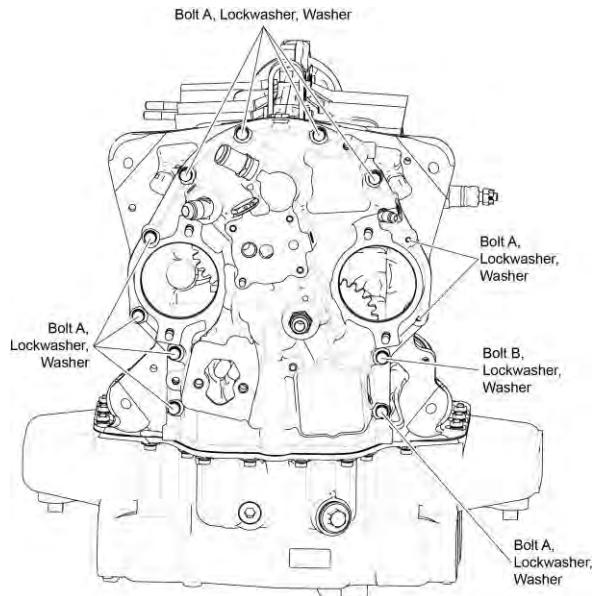

Figure 1
- A. Remove all of the Bolts A and B, lock washers, and washers from the external side of the accessory housing shown in Figure 1. Discard the lock washers.
- B. While one person supports the accessory housing, remove the two bolts, lock washers, and washers from the other side of the accessory housing as shown in Figure 1. Discard the lock washers.